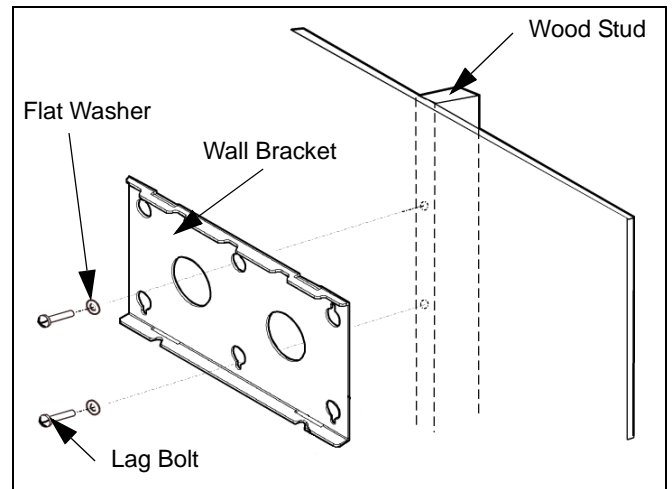

Figure 8: Install Wall Bracket
- Using the two wood screws (40), secure wall bracket (20) to wall. (see figure 8)